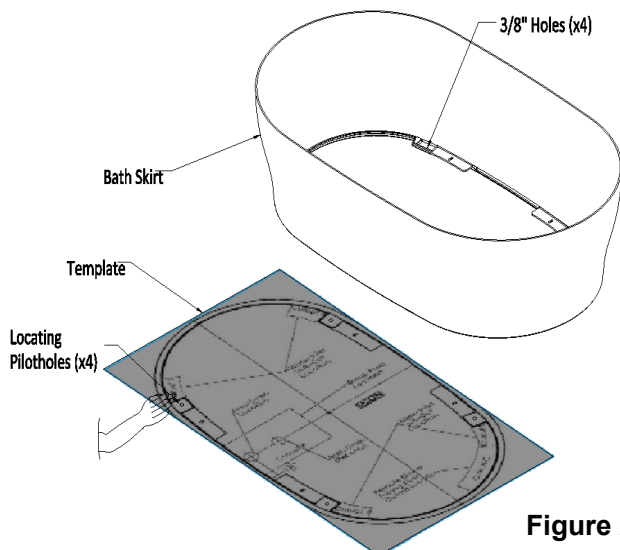

Figure 2
11. Position the Skirt and align it with the centerlines on the finished floor. Use the four existing 3/8" holes located in the bottom flanges of the skirt to mark where to drill the four (4) 1/4" pilot holes for the installation screws. **See Figure 2.** After marking the hole locations, remove the skirt and set aside.